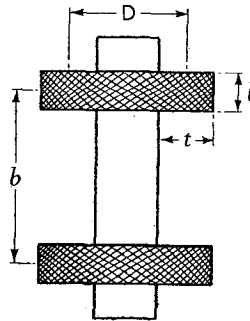

Fig. 3. Symmetrical IF transformer for which the distance b between coils can be calculated for any given coupling coefficient k .
Fig. 3. The capacity altimeter : diagram (a) shows capacities existing between the electrodes when the aircraft is in free space, while (b) shows the extra capacities which come into play as the earth is approached. Diagram (c) represents the electrical equivalent of (b).
where all the dimensions are in inches, and the nomenclature is shown in Fig. 3. This formula is due to S.W. Amos (*Wireless World*, Sept. 1943, p. 272) who claims it to be accurate within about 4 per cent. for practical coils. It is now only required to find the correct spacing for the desired k with the given coils from this formula and the design of the IF transformer is complete. An abac has therefore been drawn to cover equation (4) which is given here. The use of the abac should be quite clear from the key and the abac may be read as accurately as the formula warrants. An example follows.